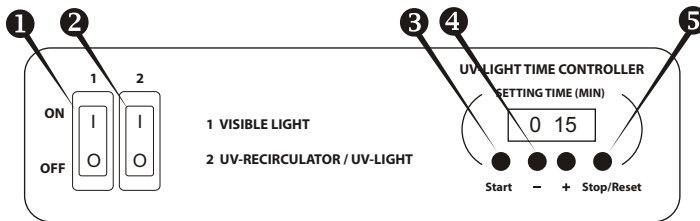

Fig.1. Control Panel
- 4.2.1. Turn ON **switch 2** (Fig.1/2). This automatically turns on the UV-recirculator with the hidden UV-lamp and activates the timer of open UV-lamp. The UV-recirculator will operate all the time until **switch 2** is turned OFF.
- 4.2.2. Use the timer keys **+** and **-** (Fig.1/4) to set the time (UV-LIGHT TIME CONTROLLER) of direct UV light exposure of the working place:
4.2.3. Press the **Start** key (Fig.1/ⓘ), the open UV lamp automatically will be turned on and timer starts counting up the exposure time. Timer indicator shows actual time: until 1 hour - in minutes and seconds (min:sec), after 1 hour - in hours and minutes (hh:mm).
4.2.4. The open UV-lamp can be switched off by pressing **Stop/Reset** key (Fig.1/Ⓜ). The set time of exposition is preserved in the memory. The set time won't be preserved after the complete switching off the UV-cleaner box.
4.3.1. Turn ON **switch 1** (Fig.1/Ⓛ) for lighting of the working place (this turns ON the Luminescent (Visible light) lamp).